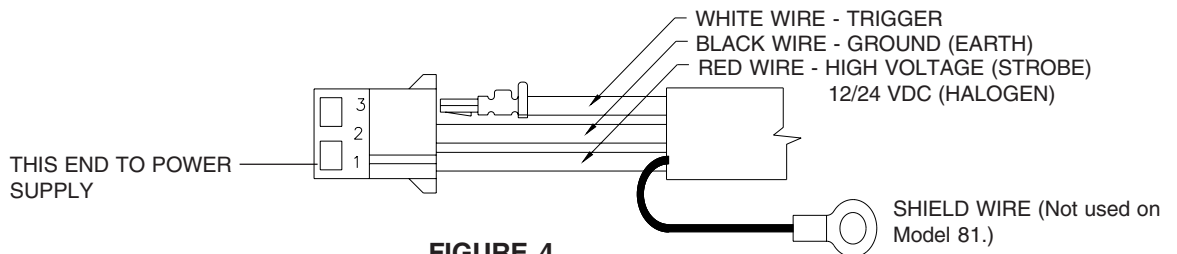

FIGURE 4
8. Insert the 3 AMP sockets into the AMP socket housing as shown in Figure 4.